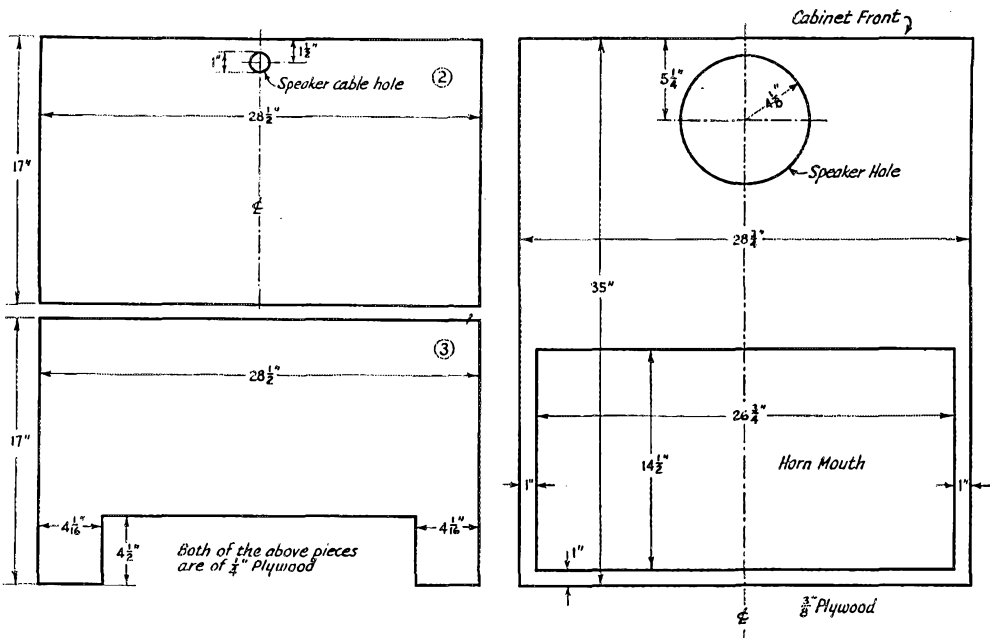

Fig. 2 — Detail of pieces No. 2 (upper left), No. 3 (lower left) and No. 9 (right).
- 2 — See Fig. 2.
- 3 — See Fig. 2.
- 9 — See Fig. 2.